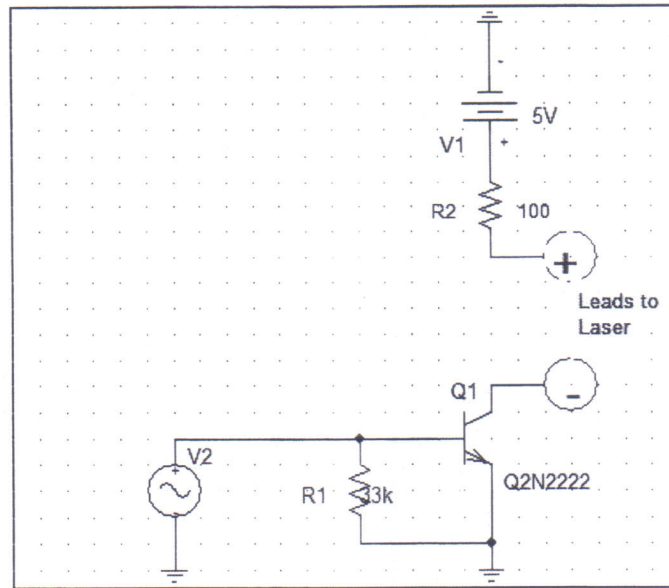

Figure 2: Transmitter Circuit
- The transmitter circuit, seen in Figure 2, allowed us to use the high speed switching of a 2N3904 transistor in order to modulate the laser diode to the desired frequency.